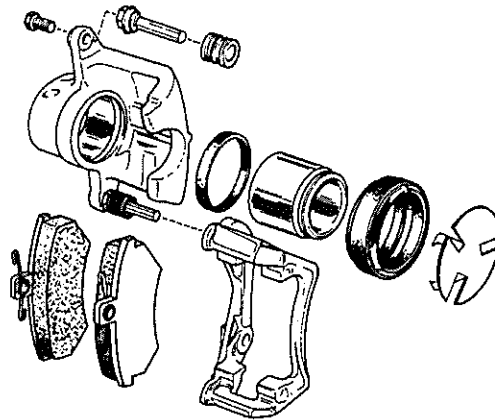

Fig 17 Brake calliper
- 42.3. Remove dust cover and oil seal from calliper bore (see Fig 17).